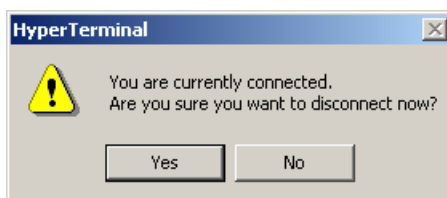

Figure 2-26 HyperTerminal Dialog Box (1)
12. Select the *Exit* option from the *File* pull-down menu to close the HyperTerminal application. A HyperTerminal message box appears (Figure 2-26):